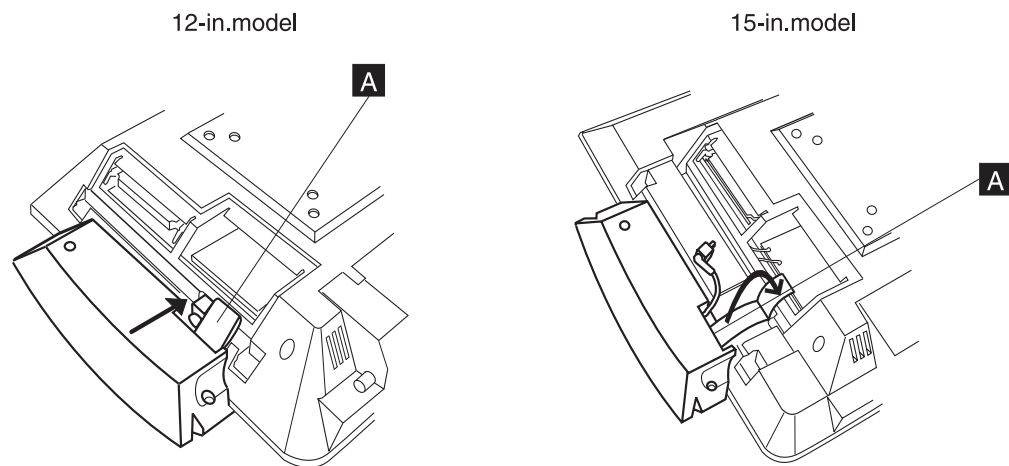

Figure 7. Placing the grounding strap
**Note:** **A** in Figure 7 shows the grounding strap, which is folded for the 12 inch unit, unfolded for the 15 inch unit.